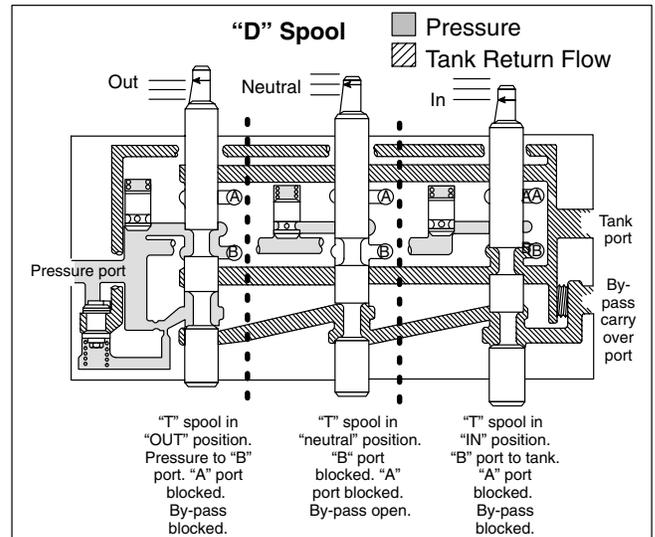

Figure 6.
c. **"T" Single Acting Spool** - "T" spools direct flow to one end of an operating cylinder only as in the example of the lift mechanism on a fork-type truck. Return flow is from the same end of operating cylinder and relies on gravity or mechanical means. See Figure 6 for spool position versus flow.